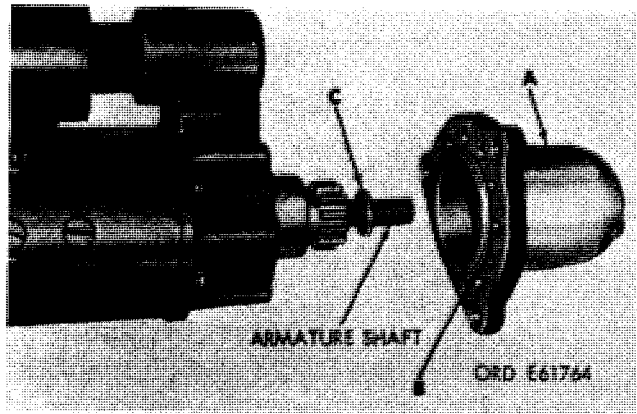

Figure 3-6. Removing or installing pinion housing and related parts.
(2) Remove pinion housing (A, fig. 3-6), from starter and then remove and discard packing (B). Remove thrust washer (C) from armature shaft.